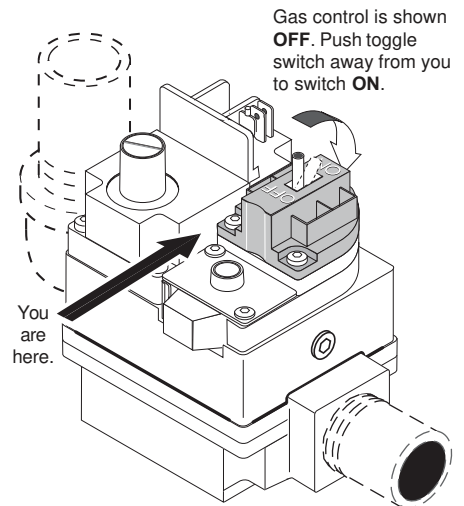

Figure 26.
6. **Toggle-Style Valve:** Pull toggle toward you to turn gas off, see Figure 26.
7. Wait five (5) minutes to clear out any gas. If you then smell gas, **STOP!** Follow “B” in the “Before Start-up” instructions (page 33). If you don’t smell gas, go to the next step.
4. **Toggle-Style Valve:** Pull toggle toward you to turn gas off, see Figure 26.